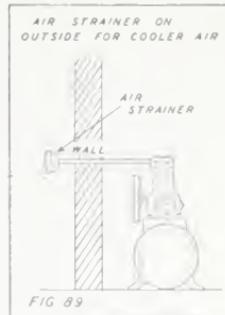

FIG. 89
- It should be located in a cool place—at least a foot from wall, where it will receive dry, clean air. Where permissible it is recommended to have intake of compressor piped to outside of building (Fig. 89) to insure clean, cool air.